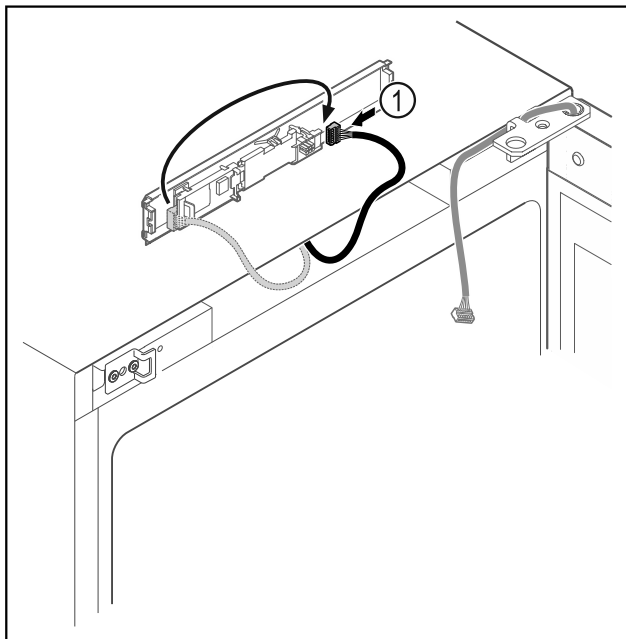

Fig. 9
- Connect the plug Fig. 9 (1) to the circuit board.